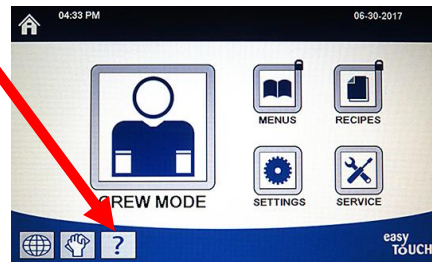

Figure 19
17. Press the **?** button (see Figure 19) on the next page.
13. Press the **?** button (see Figure 19).